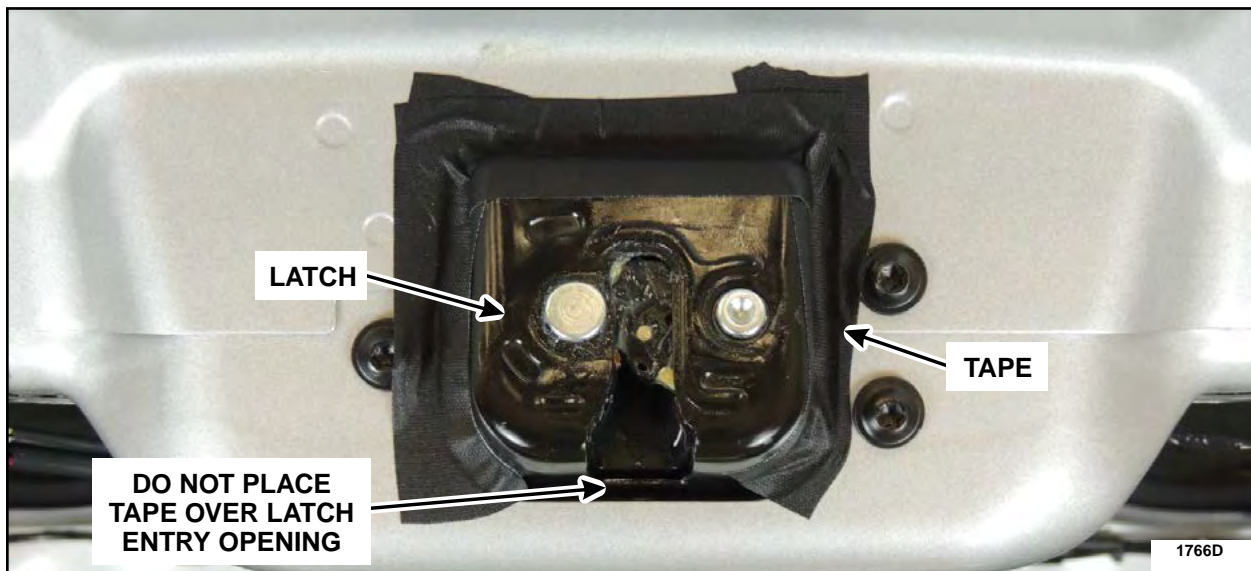

FIGURE 19
7. Using isopropyl alcohol and a clean cloth, clean the area around the liftgate latch. Install the tape pieces around three (3) sides of the liftgate latch. See Figure 19.